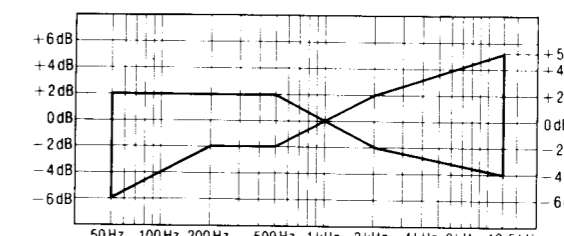

Fig. 8
5. After that increase the signal recorded on CrO₂ blank tape (QZZCRX) and metal blank tape (QZZCRZ) up to 12.5kHz and adjust in the same way as mentioned above and check that the frequency level is within the range shown in Fig. 8.